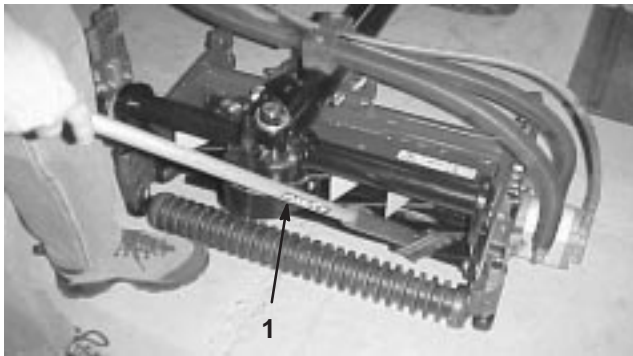

Figure 15
8. Apply lapping compound with a long handle brush (Toro Part No. 29-9100). Never use a short handled brush (Fig. 15).